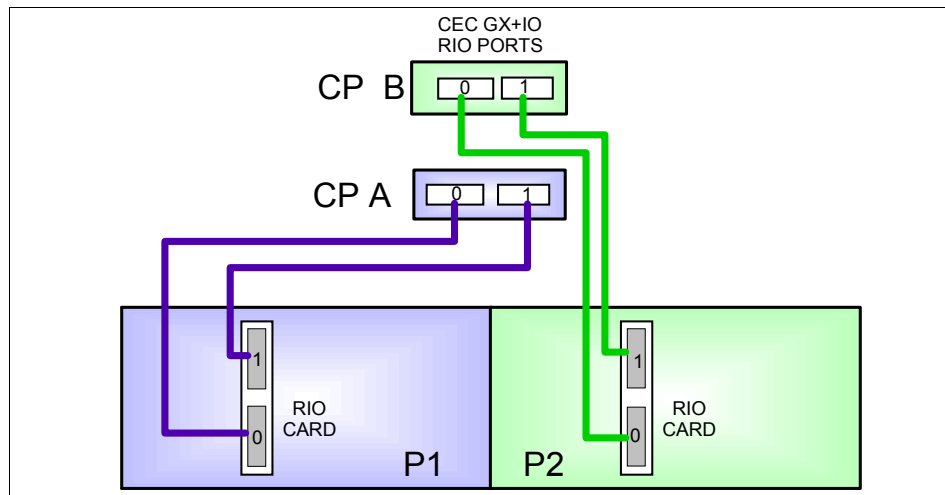

Figure 2-12 Dual loop 7040-61D
- ▶ Dual-loop (Figure 2-12) mode connects each I/O planar in the drawer to the CEC separately. Each I/O planar is connected to the CEC using a separate